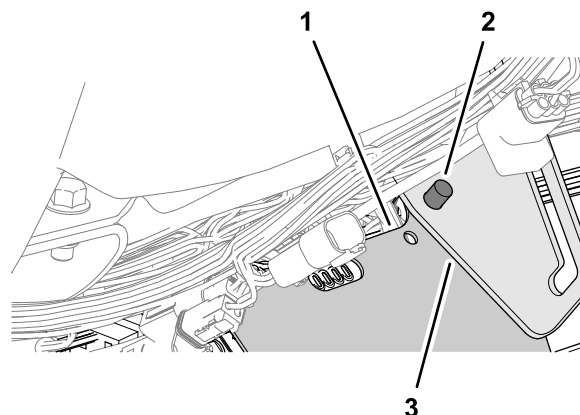

Figure 90
7. Insert the upper push-in fastener of the wire harness into the holes in the modem bracket and prop-rod bracket (Figure 90).